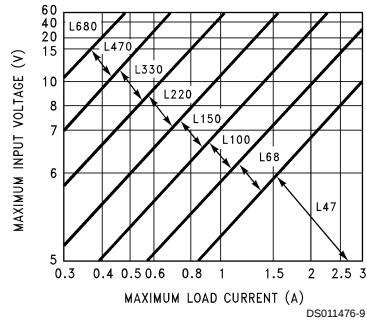
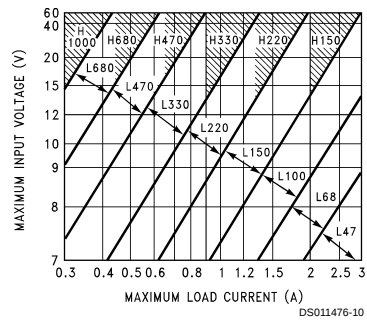
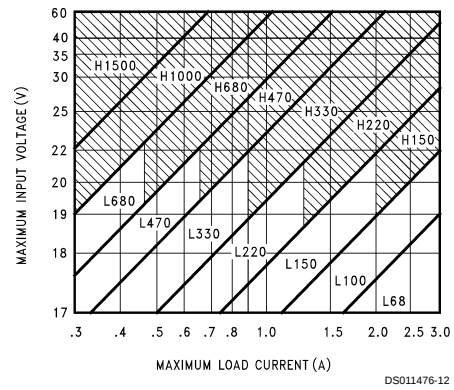
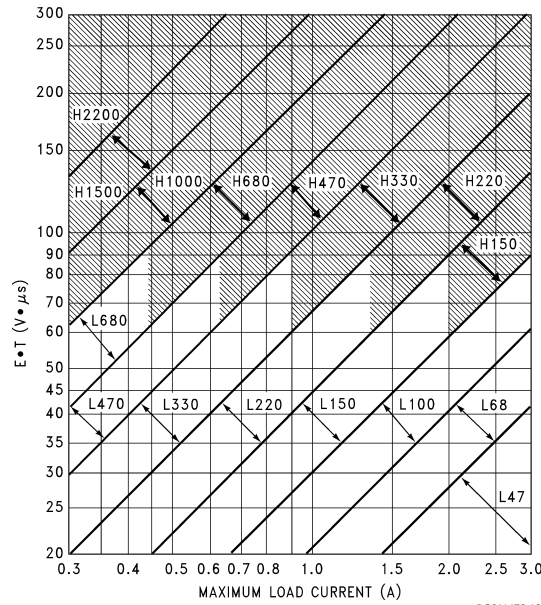

FIGURE 3. LM2576(HV)-3.3
FIGURE 4. LM2576(HV)-5.0
FIGURE 6. LM2576(HV)-15
FIGURE 7. LM2576(HV)-ADJ
Given: V_{OUT} = Regulated Output Voltage (3.3V, 5V, 12V, or 15V) $V_{IN}(\text{Max})$ = Maximum Input Voltage $I_{LOAD}(\text{Max})$ = Maximum Load Current 1. Inductor Selection (L1) A. Select the correct Inductor value selection guide from Figures 3, 4, 5 or Figure 6. (Output voltages of 3.3V, 5V, 12V or 15V respectively). For other output voltages, see the design procedure for the adjustable version. B. From the inductor value selection guide, identify the inductance region intersected by $V_{IN}(\text{Max})$ and $I_{LOAD}(\text{Max})$, and note the inductor code for that region. C. Identify the inductor value from the inductor code, and select an appropriate inductor from the table shown in Figure 3. Part numbers are listed for three inductor manufacturers. The inductor chosen must be rated for operation at the LM2576 switching frequency (52 kHz) and for a current rating of $1.15 \times I_{LOAD}$. For additional inductor information, see the inductor section in the Application Hints section of this data sheet. 2. Output Capacitor Selection (C_{OUT}) A. The value of the output capacitor together with the inductor defines the dominate pole-pair of the switching regulator loop. For stable operation and an acceptable output ripple voltage, (approximately 1% of the output voltage) a value between 100 μF and 470 μF is recommended. B. The capacitor's voltage rating should be at least 1.5 times greater than the output voltage. For a 5V regulator, a rating of at least 8V is appropriate, and a 10V or 15V rating is recommended. Higher voltage electrolytic capacitors generally have lower ESR numbers, and for this reason it may be necessary to select a capacitor rated for a higher voltage than would normally be needed. 3. Catch Diode Selection (D1) A. The catch-diode current rating must be at least 1.2 times greater than the maximum load current. Also, if the power supply design must withstand a continuous output short, the diode should have a current rating equal to the maximum current limit of the LM2576. The most stressful condition for this diode is an overload or shorted output condition. B. The reverse voltage rating of the diode should be at least 1.25 times the maximum input voltage. 4. Input Capacitor (C_{IN}) An aluminum or tantalum electrolytic bypass capacitor located close to the regulator is needed for stable operation.	Given: V_{OUT} = 5V $V_{IN}(\text{Max})$ = 15V $I_{LOAD}(\text{Max})$ = 3A 1. Inductor Selection (L1) A. Use the selection guide shown in Figure 4. B. From the selection guide, the inductance area intersected by the 15V line and 3A line is L100. C. Inductor value required is 100 μH. From the table in Figure 3. Choose AIE 415-0930, Pulse Engineering PE92108, or Renco RL2444. 2. Output Capacitor Selection (C_{OUT}) A. C_{OUT} = 680 μF to 2000 μF standard aluminum electrolytic. B. Capacitor voltage rating = 20V. 3. Catch Diode Selection (D1) A. For this example, a 3A current rating is adequate. B. Use a 20V 1N5823 or SR302 Schottky diode, or any of the suggested fast-recovery diodes shown in Figure 8. 4. Input Capacitor (C_{IN}) A 100 μF, 25V aluminum electrolytic capacitor located near the input and ground pins provides sufficient bypassing.
2. Inductor Selection (L1) A. Calculate the inductor Volt • microsecond constant, $E \cdot T$ ($V \cdot \mu s$), from the following formula: $E \cdot T = (V_{IN} - V_{OUT}) \frac{V_{OUT}}{V_{IN}} \cdot \frac{1000}{F \text{ (in kHz)}} (V \cdot \mu s)$ B. Use the $E \cdot T$ value from the previous formula and match it with the $E \cdot T$ number on the vertical axis of the Inductor Value Selection Guide shown in Figure 7. C. On the horizontal axis, select the maximum load current. D. Identify the inductance region intersected by the $E \cdot T$ value and the maximum load current value, and note the inductor code for that region. E. Identify the inductor value from the inductor code, and select an appropriate inductor from the table shown in Figure 9. Part numbers are listed for three inductor manufacturers. The inductor chosen must be rated for operation at the LM2576 switching frequency (52 kHz) and for a current rating of $1.15 \times I_{LOAD}$. For additional inductor information, see the inductor section in the application hints section of this data sheet. 3. Output Capacitor Selection (C_{OUT}) A. The value of the output capacitor together with the inductor defines the dominate pole-pair of the switching regulator loop. For stable operation, the capacitor must satisfy the following requirement: $C_{OUT} \geq 13,300 \frac{V_{IN(Max)}}{V_{OUT} \cdot L(\mu H)} (\mu F)$ The above formula yields capacitor values between 10 μF and 2200 μF that will satisfy the loop requirements for stable operation. But to achieve an acceptable output ripple voltage, (approximately 1% of the output voltage) and transient response, the output capacitor may need to be several times larger than the above formula yields. B. The capacitor's voltage rating should be at least 1.5 times greater than the output voltage. For a 10V regulator, a rating of at least 15V or more is recommended. Higher voltage electrolytic capacitors generally have lower ESR numbers, and for this reason it may be necessary to select a capacitor rate for a higher voltage than would normally be needed. 4. Catch Diode Selection (D1) A. The catch-diode current rating must be at least 1.2 times greater than the maximum load current. Also, if the power supply design must withstand a continuous output short, the diode should have a current rating equal to the maximum current limit of the LM2576. The most stressful condition for this diode is an overload or shorted output. See diode selection guide in Figure 8. B. The reverse voltage rating of the diode should be at least 1.25 times the maximum input voltage. 5. Input Capacitor (C_{IN}) An aluminum or tantalum electrolytic bypass capacitor located close to the regulator is needed for stable operation.	2. Inductor Selection (L1) A. Calculate $E \cdot T$ ($V \cdot \mu s$) $E \cdot T = (25 - 10) \cdot \frac{10}{25} \cdot \frac{1000}{52} = 115 V \cdot \mu s$ B. $E \cdot T = 115 V \cdot \mu s$ C. $I_{LOAD(Max)} = 3A$ D. Inductance Region = H150 E. Inductor Value = 150 μH Choose from AIE part #415-0936 Pulse Engineering part #PE-531115, or Renco part #RL2445. 3. Output Capacitor Selection (C_{OUT}) $C_{OUT} > 13,300 \frac{25}{10 \cdot 150} = 22.2 \mu F$ However, for acceptable output ripple voltage select $C_{OUT} \geq 680 \mu F$ $C_{OUT} = 680 \mu F$ electrolytic capacitor 4. Catch Diode Selection (D1) A. For this example, a 3.3A current rating is adequate. B. Use a 30V 31DQ03 Schottky diode, or any of the suggested fast-recovery diodes in Figure 8. 5. Input Capacitor (C_{IN}) A 100 μF aluminum electrolytic capacitor located near the input and ground pins provides sufficient bypassing.
The inductor value selection guides in *Figure 3* through *Figure 7* were designed for buck regulator designs of the continuous inductor current type. When using inductor values shown in the inductor selection guide, the peak-to-peak inductor ripple current will be approximately 20% to 30% of the maximum DC current. With relatively heavy load currents, the circuit operates in the continuous mode (inductor current always flowing), but under light load conditions, the circuit will be forced to the discontinuous mode (inductor current falls to zero for a period of time). This discontinuous mode of operation is perfectly acceptable. For light loads (less than approximately 300 mA) it may be desirable to operate the regulator in the discontinuous mode, primarily because of the lower inductor values required for the discontinuous mode.